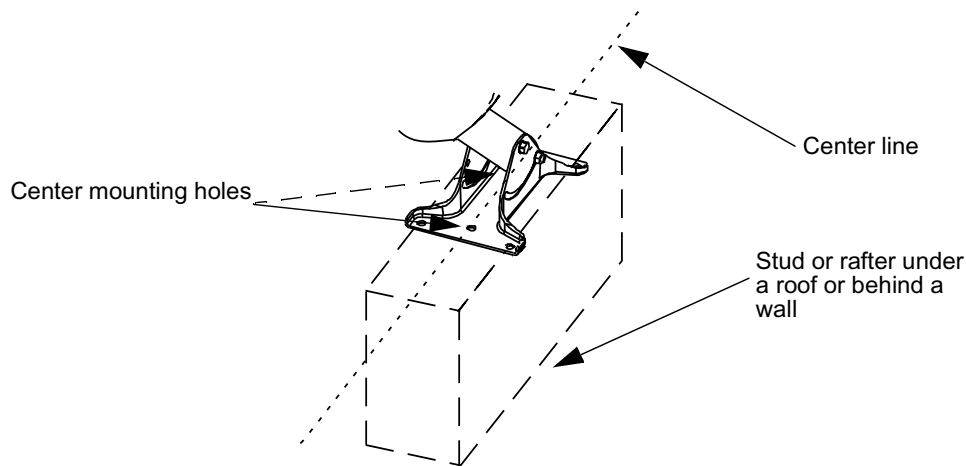

Figure 2. Mount Foot Mounting
- b) For hollow wall or roof construction, align the foot so bolts or screws through the center holes will penetrate a stud or rafter whenever possible (see Figure 2). Use two 8 mm (5/16-in.) diameter x 38 mm (1.5-in.) long lag screws for the center holes. When a stud or rafter cannot be found, fasten the mount foot with four 8 mm (5/16-in.) diameter x 76 mm (3-in.) long round head toggle bolts.
3. Insert the two mount foot pivot bolts and tighten (see Figure 2).